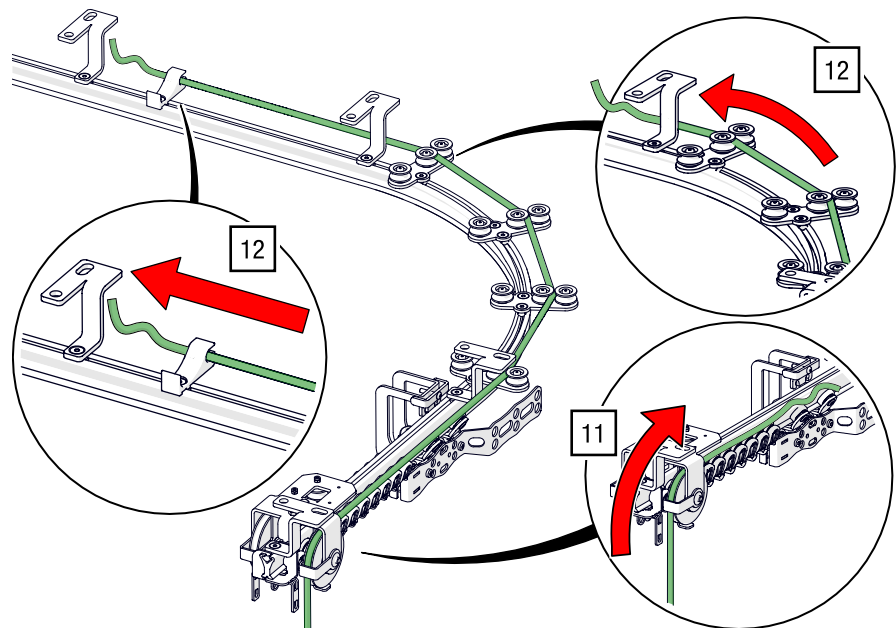

Fig. 77: Top cord operation – Guide cord through deflection pulley and cord guide
11. Thread the cord upwards through the deflection pulley (see Fig. 77).
12. Guide the cord past the first master runner through the cord guides for curved track layout and through the straight cord guide (see Fig. 77).